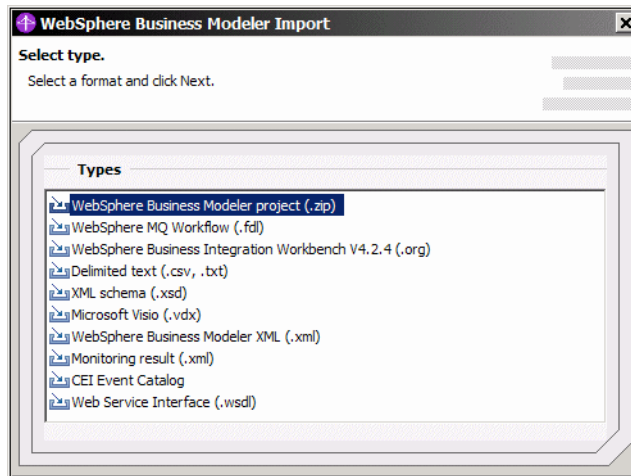

Figure 4-2 Select model import type
- ▶ Select *WebSphere Business Modeler project* and click *Next* (Figure 4-2).